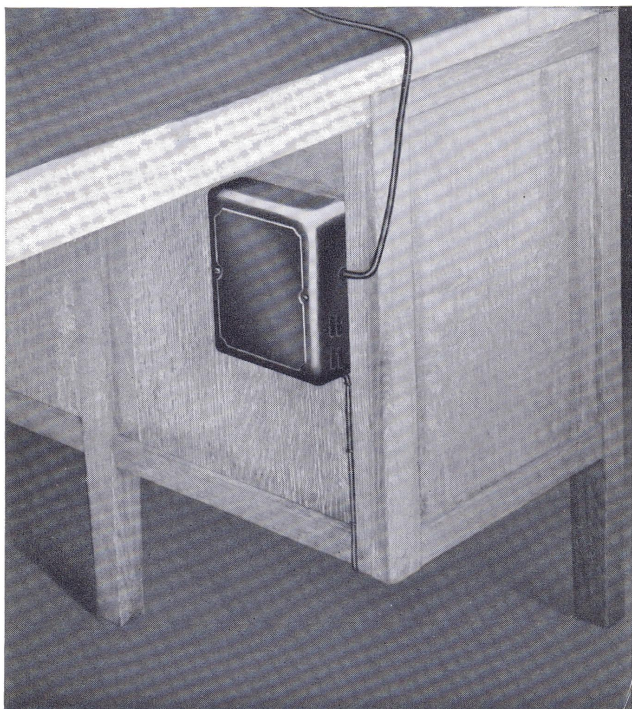

Fig. 3—684-type Subset Mounted on Desk
2.06 Subsets may be installed on the left, right, or under side of tables or desks. Subsets also may be installed in the knee well of the desk, provided that they are not located where they will inconvenience the person sitting at the desk. (See Fig. 3.)